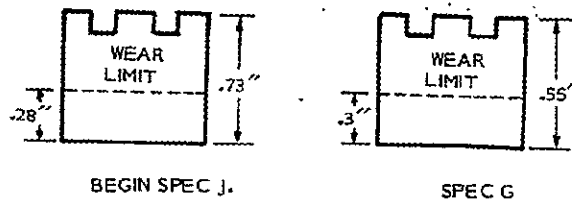

FIGURE 54. BRUSH WEAR LIMITS
**Inspection of Brushes:** When brushes are worn more than 0.3 inch (7.6 mm), replace them. Figure 54 shows the wear limit. See that the brushes move smoothly in the brushholders.